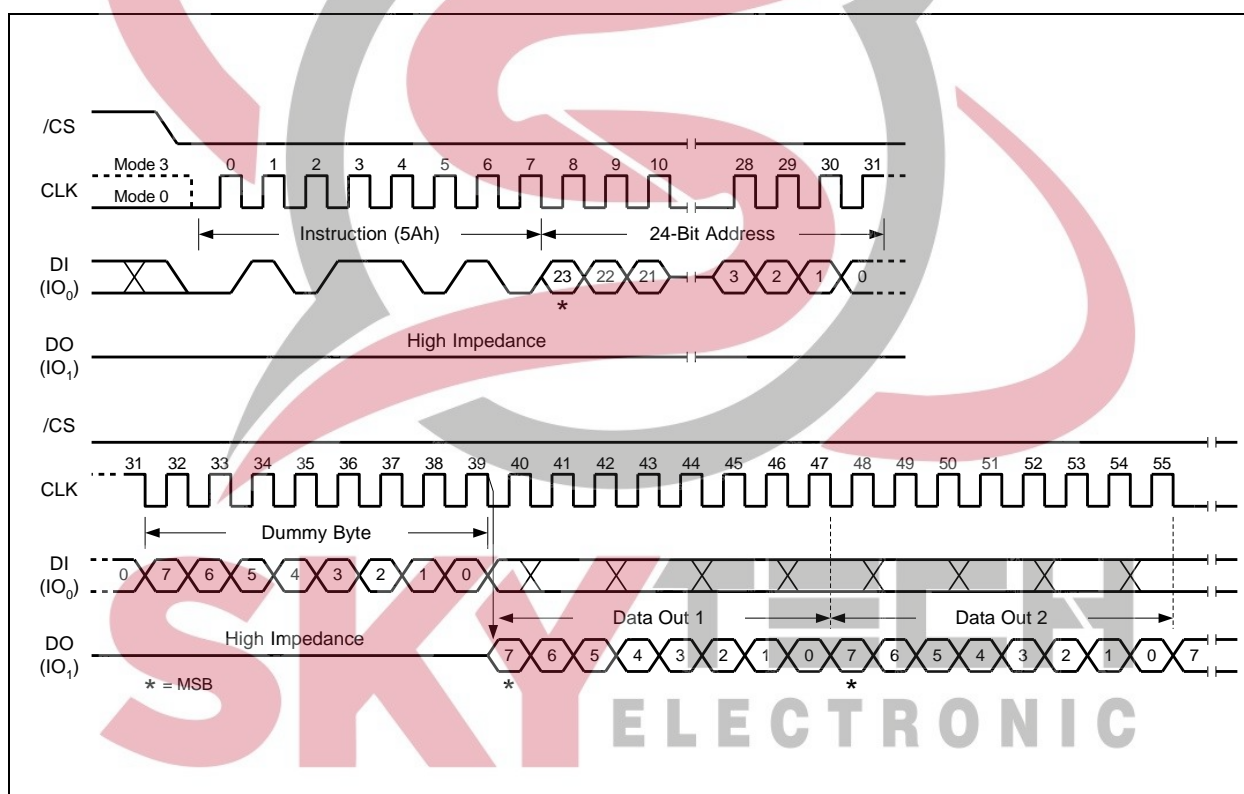

Figure 44. Read SFDP Register Instruction Sequence Diagram
The Read SFDP instruction is initiated by driving the /CS pin low and shifting the instruction code "5Ah" followed by a 24-bit address (A23-A0)(1) into the DI pin. Eight "dummy" clocks are also required before the SFDP register contents are shifted out on the falling edge of the 40th CLK with most significant bit (MSB) first as shown in Figure 44. For SFDP register values and descriptions, please refer to the Winbond Application Note for SFDP Definition Table.